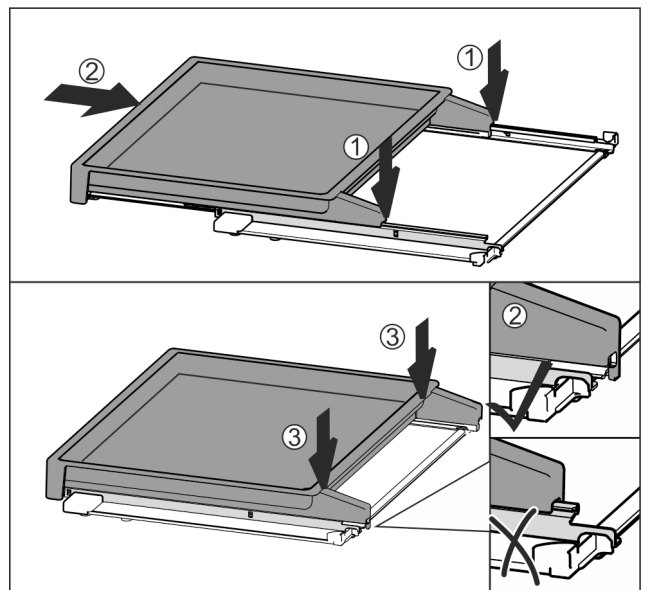

Fig. 113
- ▶ Place centrally on the rails Fig. 113 (1).
- ▶ Slide the pull-out board all the way in Fig. 113 (2).
- ▶ Press down at the back until it clicks into place Fig. 113 (3).